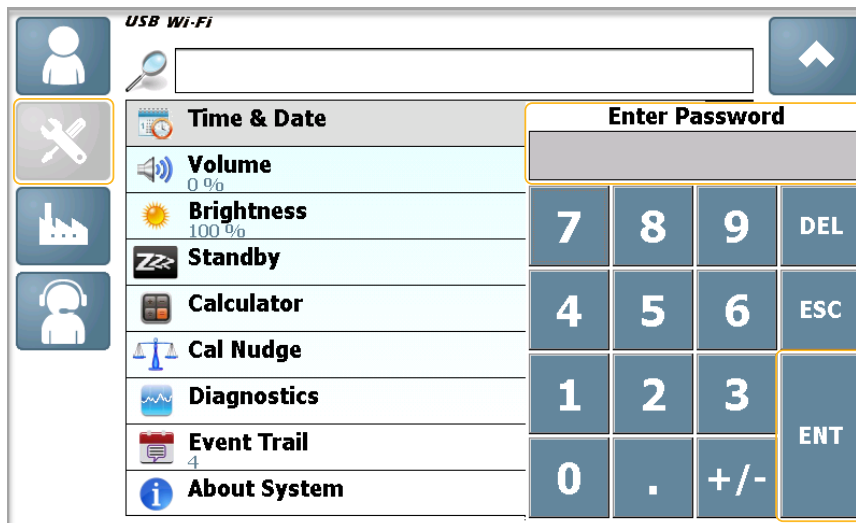

Figure 2-1: Load Weighing Display Technician Level Settings Enter Password
2. Select **Technician Level Settings**  to open the **Enter Password** dialog (Figure 2-1).